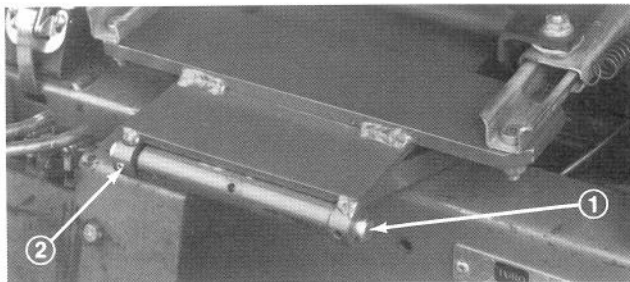

Figure 9
12. Mount seat and seat support to seat pivot bracket with pivot shaft and roll pin (Fig. 9).
14. Mount seat and seat support to seat pivot bracket with pivot shaft and roll pin (Fig. 9).